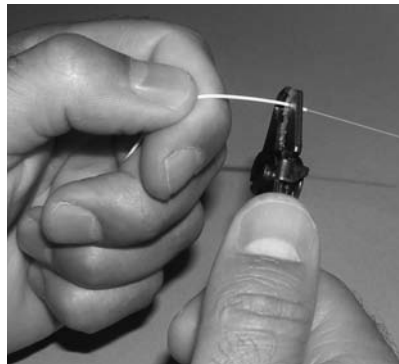

Fig. 2
Step 2. (Fig. 2) Close the tool squarely around the fiber.